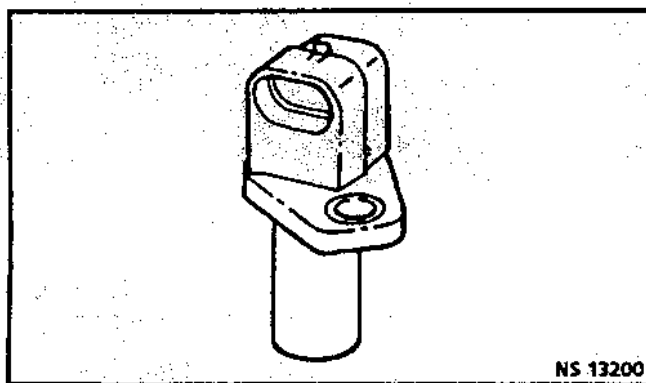

Figure 3.4-3 Crankshaft Sensor
*Figures 3.4-3 and 3.4-4*
2. Sensor to block bolt (1).